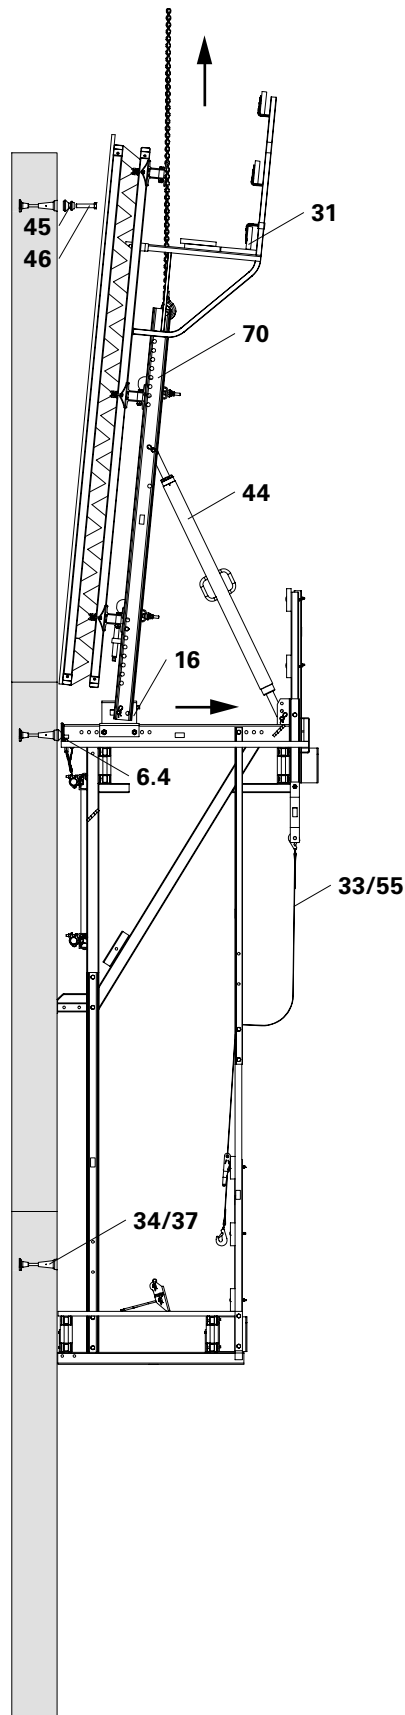

Fig. B4.01
2. Move formwork away from the wall using the Adjusting Unit CB (16), see B3. Tilt formwork towards the guardrails using the Adjustable Brace CB 164-224 (44).
3. Mount Scaffold Mounting Ring M24 (45) on the next concreting section using Bolts ISO 4014 M24 x 120-10.9 (46), see B1 Anchoring.
4. Detach wind bracing from the wall using Tie Rod DW 15 (33) or Tension Belt L = 5.70 m, 2.5 t (55) and lay it down on the finishing platform.
7. Brace Strongback CB (70), e.g. with timber, see C1 Moving.
8. Open concreting platform decking (31) above the Strongback. Secure loose parts. Attach moving unit to the Strongback CB (70). (Fig. B4.01)